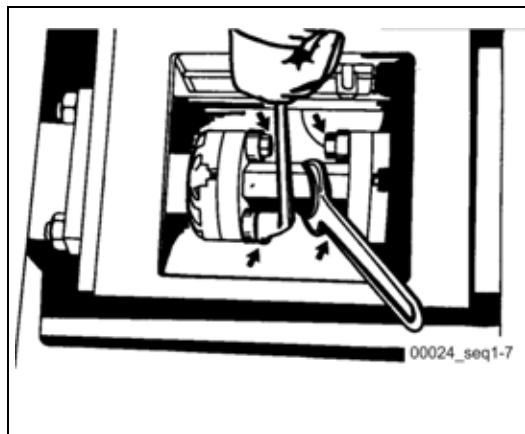

Fig. 330
- Loosen the fastening screws on the distance piece and remove them. While doing so, hold the distance piece on the continuous hexagon (Fig. 330).